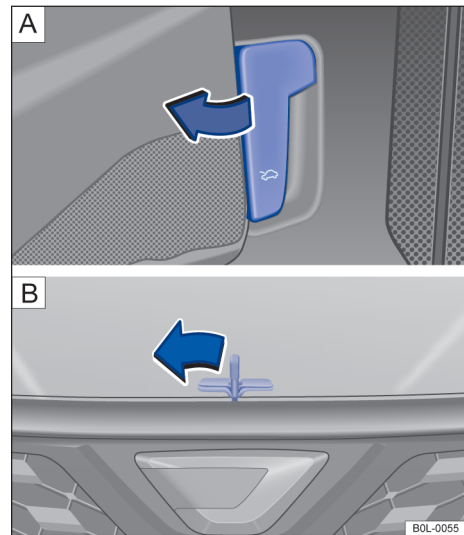

Fig. 133 **A** In the footwell on the driver side: bonnet release level; **B** Above the radiator grille: bonnet control lever
- Open the driver door and pull the release lever in the direction of the arrow (marked with symbols ⓘ) → Fig. 133 A. The bonnet is released from the lock carrier catch by spring force → ⚠.
- Lift the bonnet slightly while simultaneously pressing the opening lever in the direction of the arrow → Fig. 133 B to open the bonnet fully.